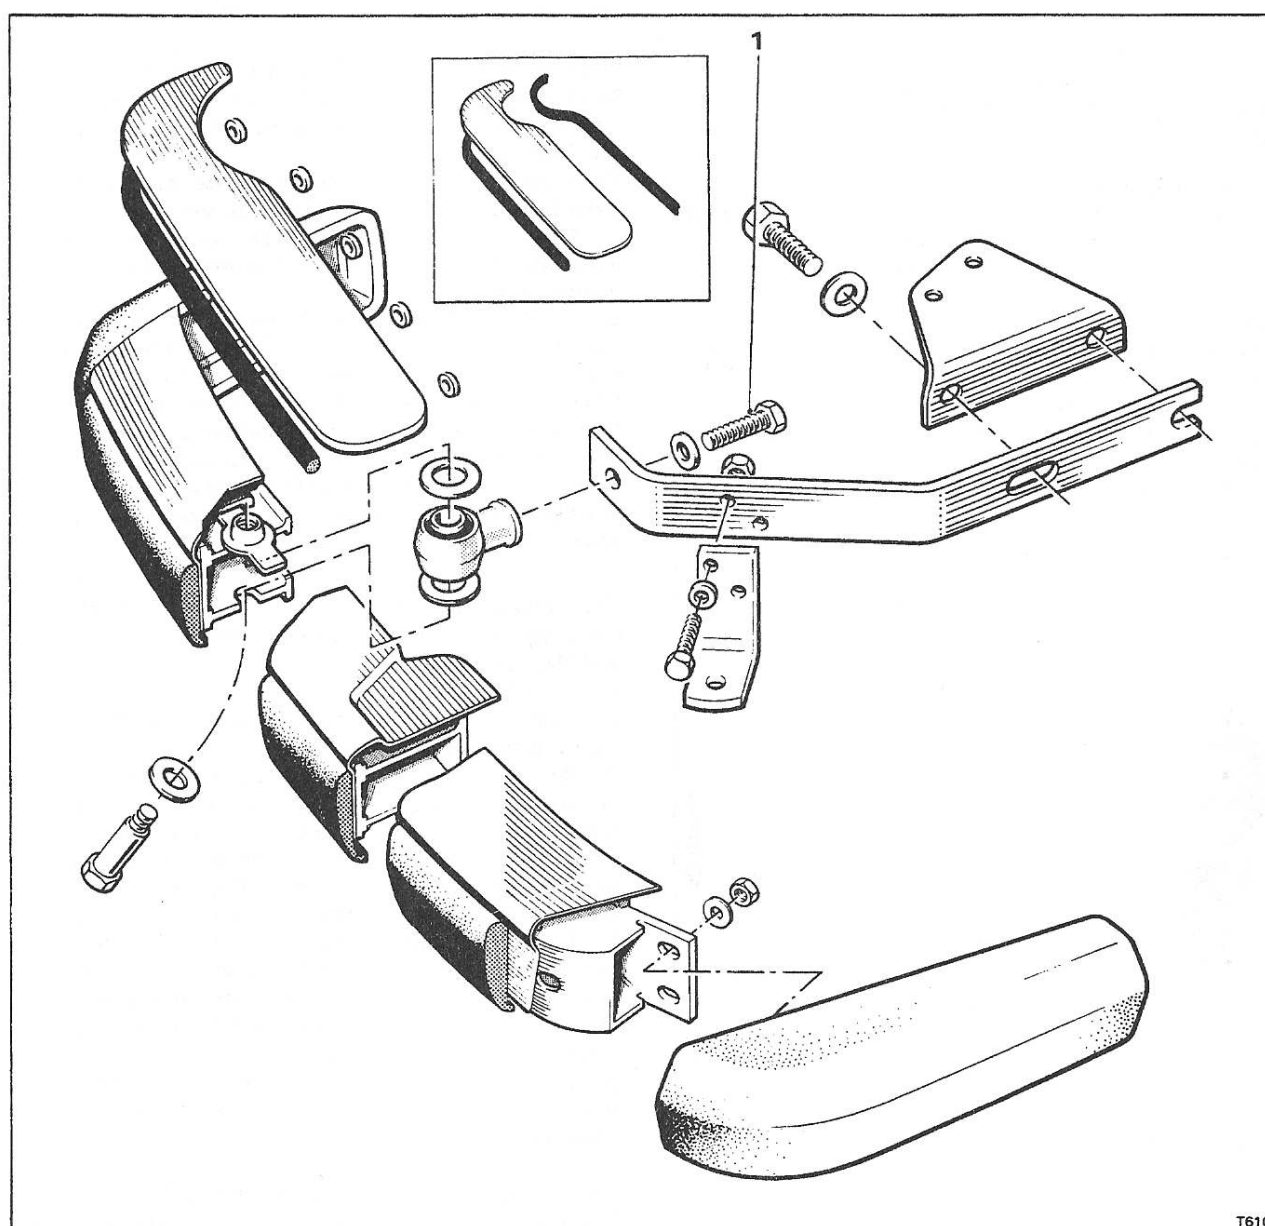

Fig. S83 Front bumper assembly (Silver Shadow II, Bentley T2, Silver Wraith II and Corniche)
2. Remove the bolt securing each of the adapters to the mounting brackets (see Fig. S83, item 1).
Front bumper assembly - To fit (see Fig. S83)